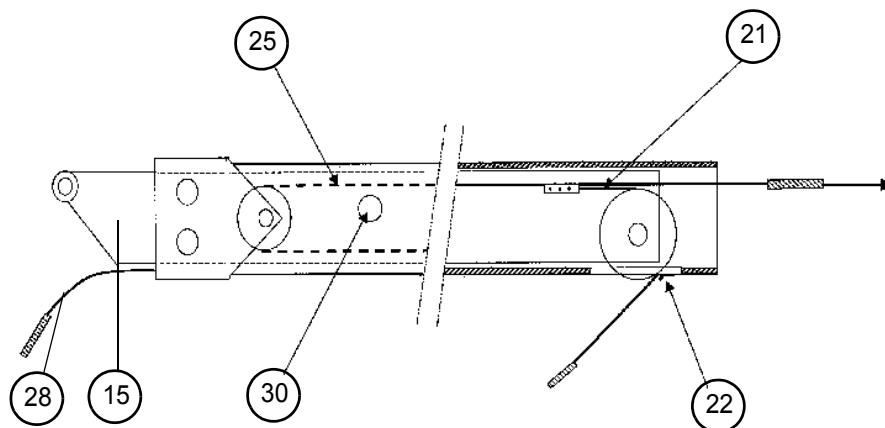

Figure 14
- Bring the Hc screws forward and install the lower plate to keep the slings in the grooves. (Figure 14). Check that the back pulleys turn freely.